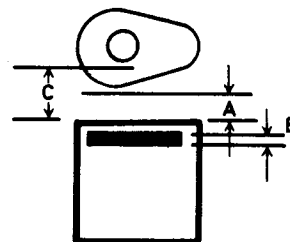

Fig B3.3
- ii. Refer to Fig B3.3. Call the measured clearance A, the shim thickness B and the required clearance C. Note that C = 0,40 to 0,46 mm for inlet valves and 0,51 to 0,56 mm for exhaust valves.